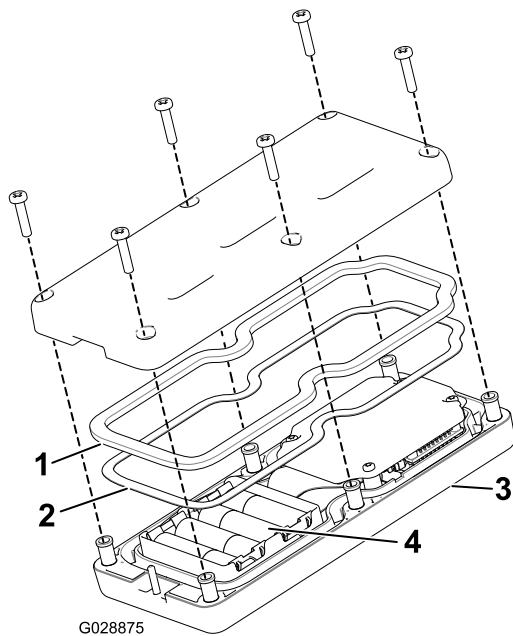

Figure 46
3. Remove the 6 screws from the back of the remote and remove the cover (Figure 46).
- Plug each fresh battery into a terminal cradle observing proper polarity. (If the batteries are improperly installed, the unit will not be damaged, but it will fail to operate.) The cradle is embossed with polarity markings for each terminal (Figure 46).
- If you accidentally removed the rubber seal and the steel gasket, replace them carefully into the channel in the handheld remote (Figure 46).
- Replace the cover and secure it with the 6 screws removed previously (Figure 46) and torque them to 1.5 to 1.7 N-m (13 to 15 in-lb).